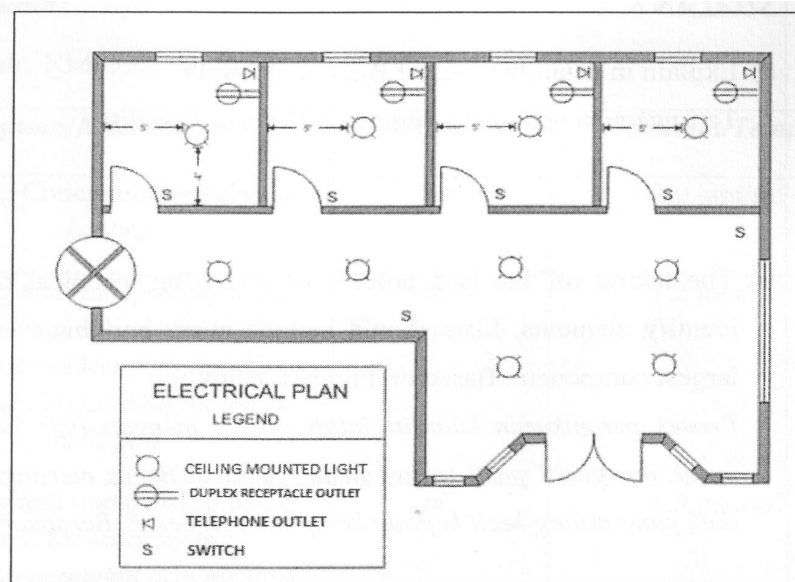

Figure B1(c) / Rajah B1(c)
- (c) The taking off is the process of analyzing technical drawings and specifications to identify the elements. The list should include each building element from the smallest to the largest component. Based on Figure B1(c) below, illustrate a taking off for the electrical supply system.